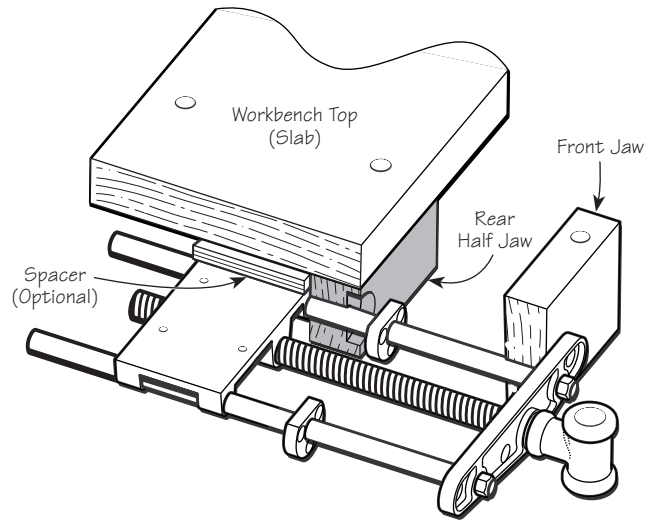
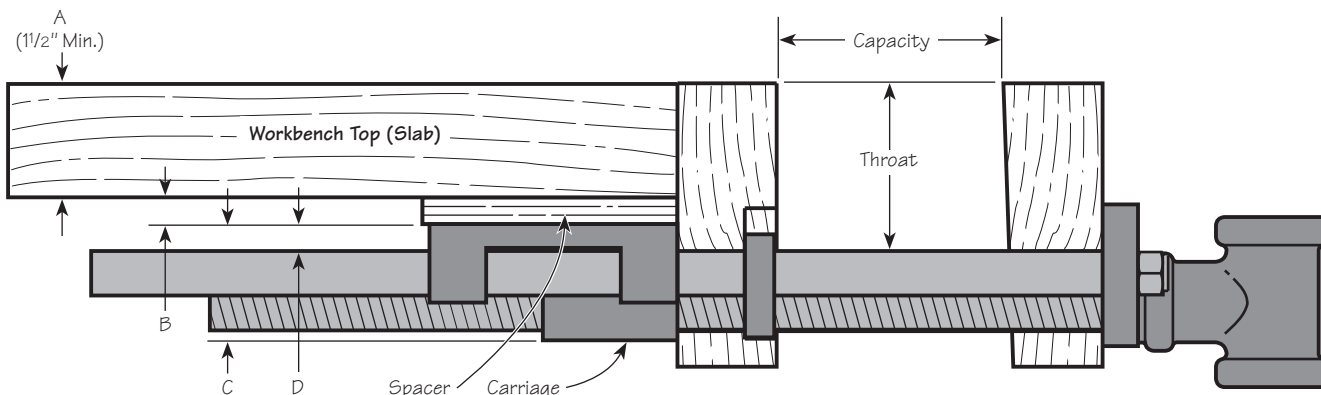
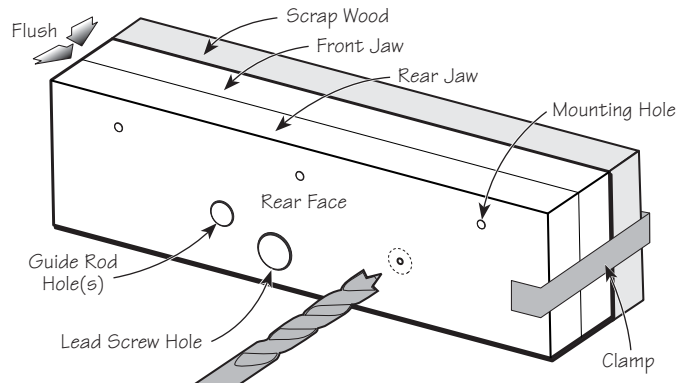

Figure 2: Bench with rear half jaw and no skirt.
Figure 5: Vise capacity and throat.
Figure 8: Clearance holes.
2	Min. 1 5/8" thick close-grained hardwood (e.g., maple, birch) 3 1/4" wide* by 12" to 15" long *One piece may be 1 3/4" min. if configured as shown in Figure 2.
2	Min. 1 5/8" thick close-grained hardwood (e.g., maple, birch) 3 3/4" min. wide* by 18" long (or longer if using as a full-width end vise) *One piece may be 2 1/4" min. if configured as shown in Figure 2.
Figures 2, 3 and 4 show the three most common configurations for mounting the vise to your bench. The choice of which you should use is largely dictated by how your existing bench is made.
3*: This configuration is for a bench that does **not** have a skirt. By making the rear jaw a single continuous piece over its entire height, the possibility of the rear half jaw (in Figure 2) shifting when clamping an object is eliminated. The disadvantage of adding a rear jaw to the edge of the bench is that clamped workpieces will be further from the edge of the work surface. If this is of concern, the rear jaw may be made the full length of the bench, in effect creating a skirt, and widening the bench in the process. The spacer is used to increase throat depth and is optional.
- To determine the minimum jaw height (or composite jaw height if your situation is as per Figure 2) and resultant throat depth without the use of a spacer, refer to Figure 5 and complete Table 1 (in pencil). As with any vise, the closer the work can be clamped to the lead screw, the less stress is placed on all its parts. However, the vise is strong enough to withstand a deeper throat. If you wish to increase the throat depth, a spacer may be added between the carriage and underside of your bench top. This will increase your throat depth accordingly. An optimum throat depth is 3" to 4". Adjust your entries until you are satisfied with the throat depth and jaw height.
Note: If your jaw configuration matches that of Figure 2, your rear half jaw height will be equal to the calculated jaw height less your bench top thickness.
- Mark a vertical center line on what will become the clamping face of the **rear** jaw. Place the template on the clamping face of the rear jaw, with the fold flush to the top edge and the center line on the template lining up with the center line of your jaw. Using a sharp punch, mark the centers of the three holes. (*Note: If your jaw configuration matches that of Figure 2, you will have to temporarily affix the rear half jaw to the underside of the bench before performing this operation.*) Also mark the centers for any hardware you intend to use to mount the jaw to the bench.
- Clamp the front and rear jaws together, aligned as they will be once they are fully assembled, as shown in **Figure 8**. Ensure that what will be the top and ends are flush. *Note: If your jaw configuration matches that of Figure 2, the rear half jaw will have to be offset from the top of the front jaw accordingly.* Place the jaws in a drill press and, picking up on the 1/8" pilot holes from the **rear face** of the **rear** jaw, bore the guide rod and the lead screw clearance holes through both pieces. **Table 2** shows the clearance hole diameters. These diameters have been rounded off to the nearest 1/8" oversize. To reduce tear-out, support the underside of the front jaw with a piece of scrap wood.
- Attach the rear jaw to the bench using large (#14) screws or $1/4''$ lag screws, additionally gluing if desired. Leave a $1/16''$ planing allowance by keeping it slightly proud of the top of the bench. (*Note: If your jaw configuration matches that of **Figure 2**, ensure that the clamping face of the half jaw is flush with the front edge of your bench.*)
- Tap the **front** jaw so that the ends and top edge are flush with the rear jaw (or bench top if your jaw configuration matches that of **Figure 2**). Firmly tighten the vise. Check that the carriage is in contact with the **rear** jaw.